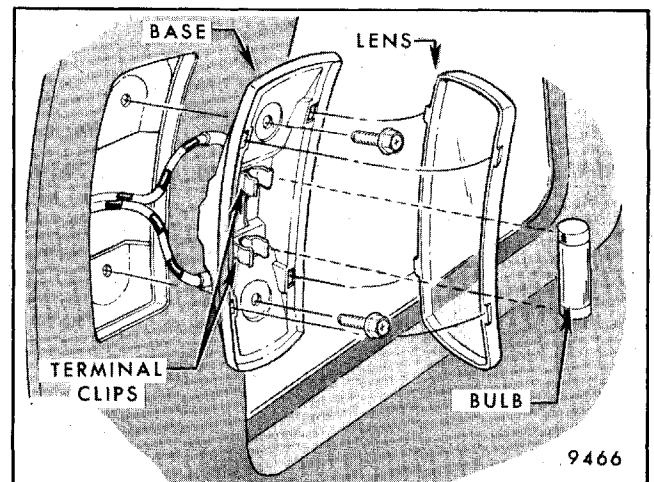

Fig. 6-13 - Quarter Upper Trim Courtesy Lamp - A Styles
- a. Insert a flat-bladed screwdriver or similar tool between courtesy lamp lens and lamp base. Press outboard to disengage lens retaining tabs from base (Fig. 6-13).
- d. To disengage wire harness from lamp base, grasp terminal clip with pliers and push clips through back of base (Fig. 6-13).